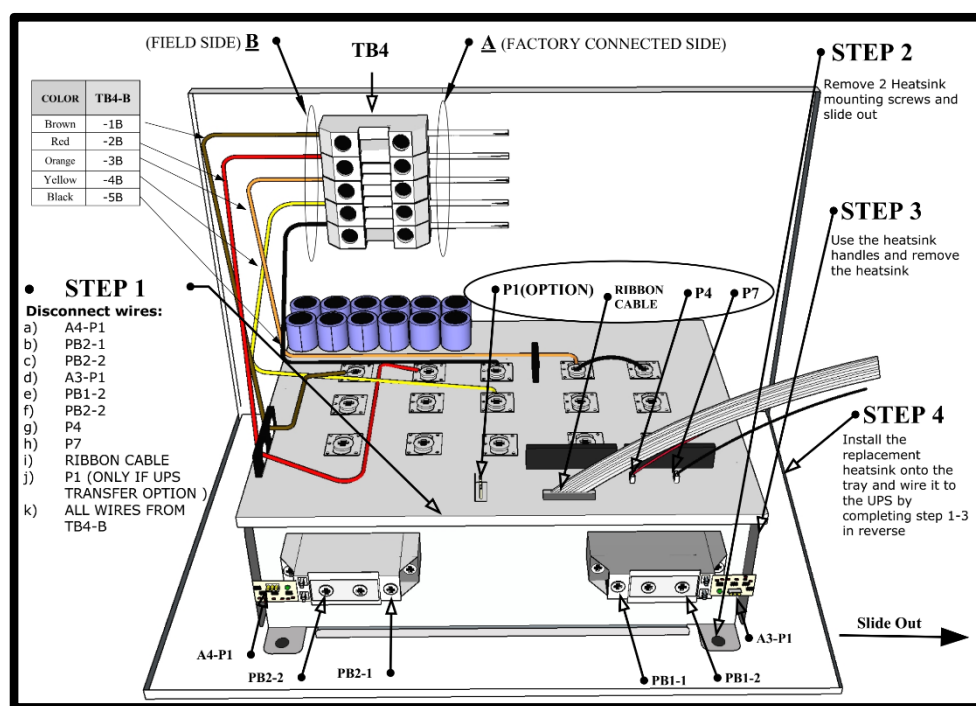
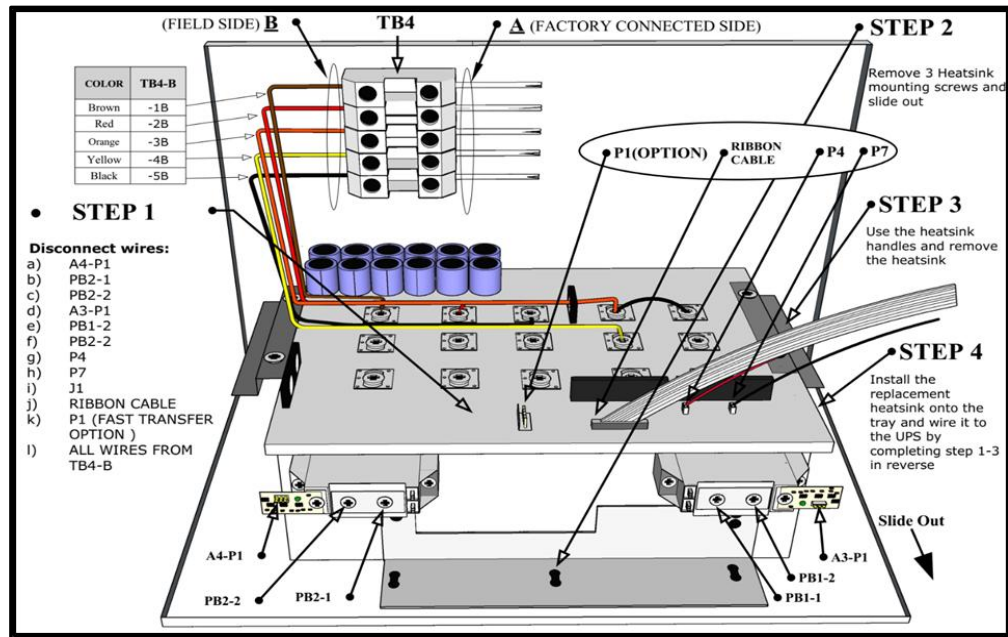

Figure 6-1. Heatsink Assembly (units up to 5kw)
Figure 6-2. Heatsink Assembly (all others)
3. Install the replacement heatsink onto the tray and wire it to the unit by completing step 1-3 in reverse (see Figure 6-1 and Figure 6-2).
4. Figure 6-1 and Verify all connections are tight and correct prior to starting up the unit.